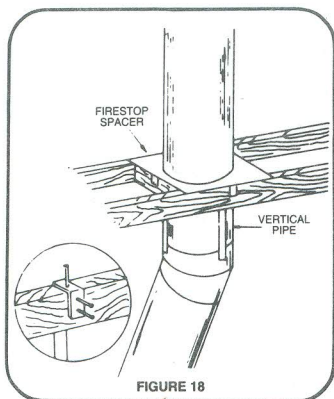

FIGURE 18
- H. The elbows have 18" support straps. The support straps should be nailed to the framing in the manner indicated in Figure 18 on page 6. Support straps are not required when an elbow is mounted on top of the firebox. It may be necessary to add framing or lengthen the straps with hanger iron support chimney pipe and elbows to all combustibles.